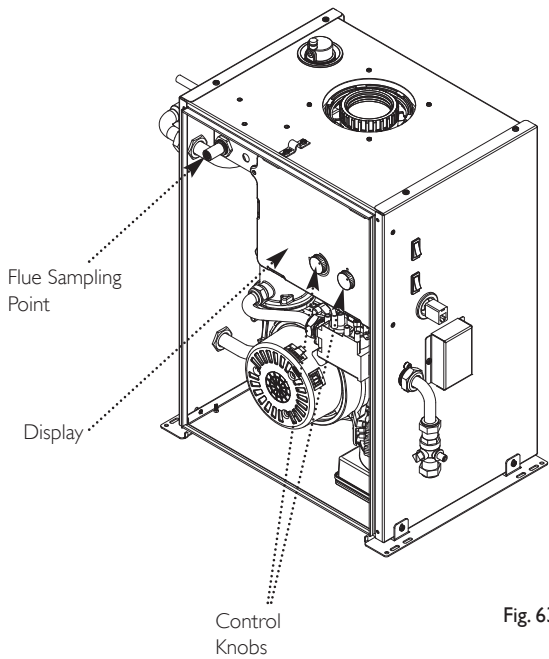

Fig. 63
3. Turn both control knobs fully anticlockwise, then quickly turn the right hand knob 1/4 clockwise twice and back fully anticlockwise (Fig. 63).
7. Remove the plug from the flue sampling test point. Insert the analyser probe and allow sufficient time for the reading to settle (Fig. 63).